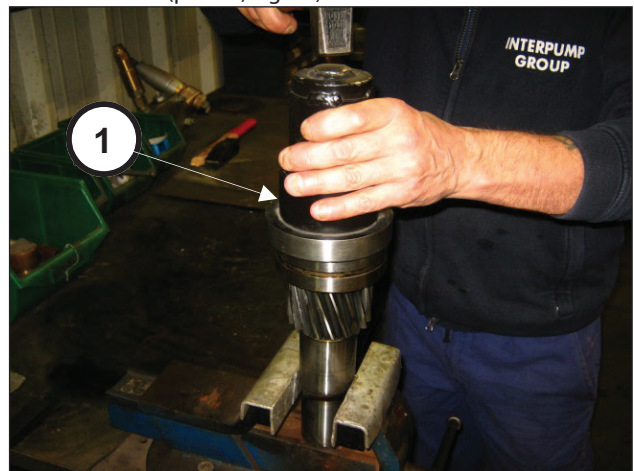

Fig. 75
Assemble the 45x100x36 bearing on the pinion using the tool code 27884800 (pos. ①, Fig. 75).